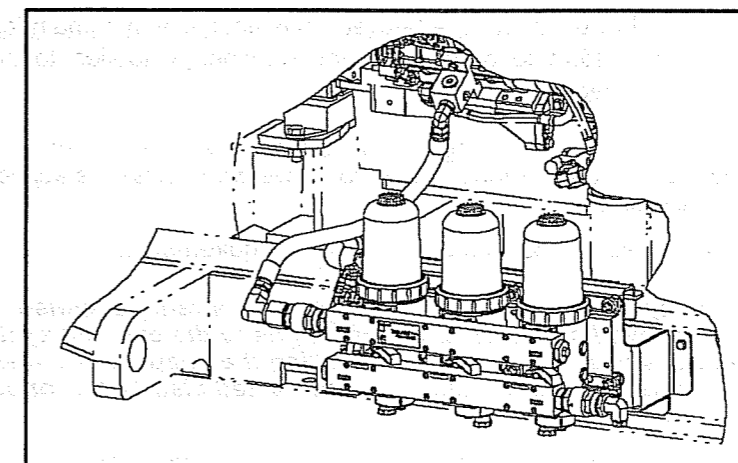

FIGURE 12. INSTALLED FUEL FILTER ASSEMBLY (TRIPEX FILTER SHOWN)
3. Use five M10 screws and flat washers (items 6 and 7) to secure the fuel filter bracket to the side of the skid. Torque the screws to 52 ± 5 N·m.
4. Secure the fuel filter and pump assembly (item 10) to the fuel filter bracket (item 16) using the provided eight flange nuts, isolator rings, isolator, flat washers, and hex head screws (items 8, 9, 11, 17, and 18). Torque the M10 flange nuts to 52 ± 5 N·m.
5. Apply thread sealant and install the 1-5/16 inch elbow (item 2) on the upper part of the fuel filter pump.
7. Apply thread sealant and install the 1-1/4 to 1-inch reducer (item 3) on the lower part of the fuel filter pump.
8. Apply thread sealant and install the 1-inch elbow (item 4) on the reducer.
9. Connect the fuel line (item 1) to the fuel inlet connector, as shown in **Figure 12**.
10. Connect the engine harness to the fuel filter harness connector (item 5).